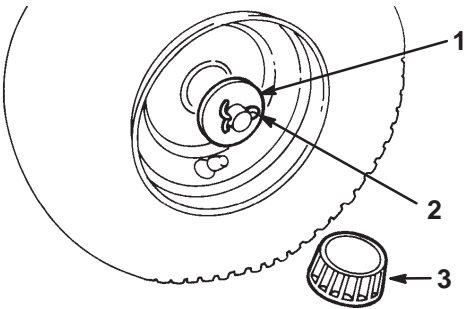

Figure 1
3. Slide the flat washer onto the axle. Insert the cotter pin through the axle and bend the ends of the pin apart (Fig. 1). If the cotter pin does not fit, remove the shim washer(s) as required.
4. Push the hub cap (Fig. 1) onto the end of the axle.